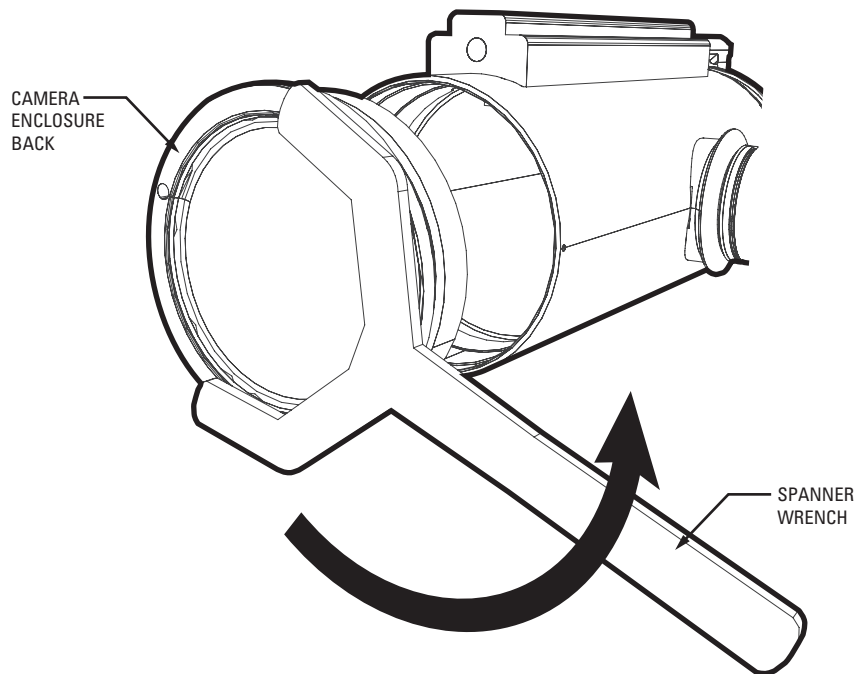

Figure 5. Remove Back Cap of Enclosure
2. Use the supplied spanner wrench to loosen the back of the camera enclosure (refer to Figure 5). Once the back is loose, use your hands to continue to loosen it until it can be removed.